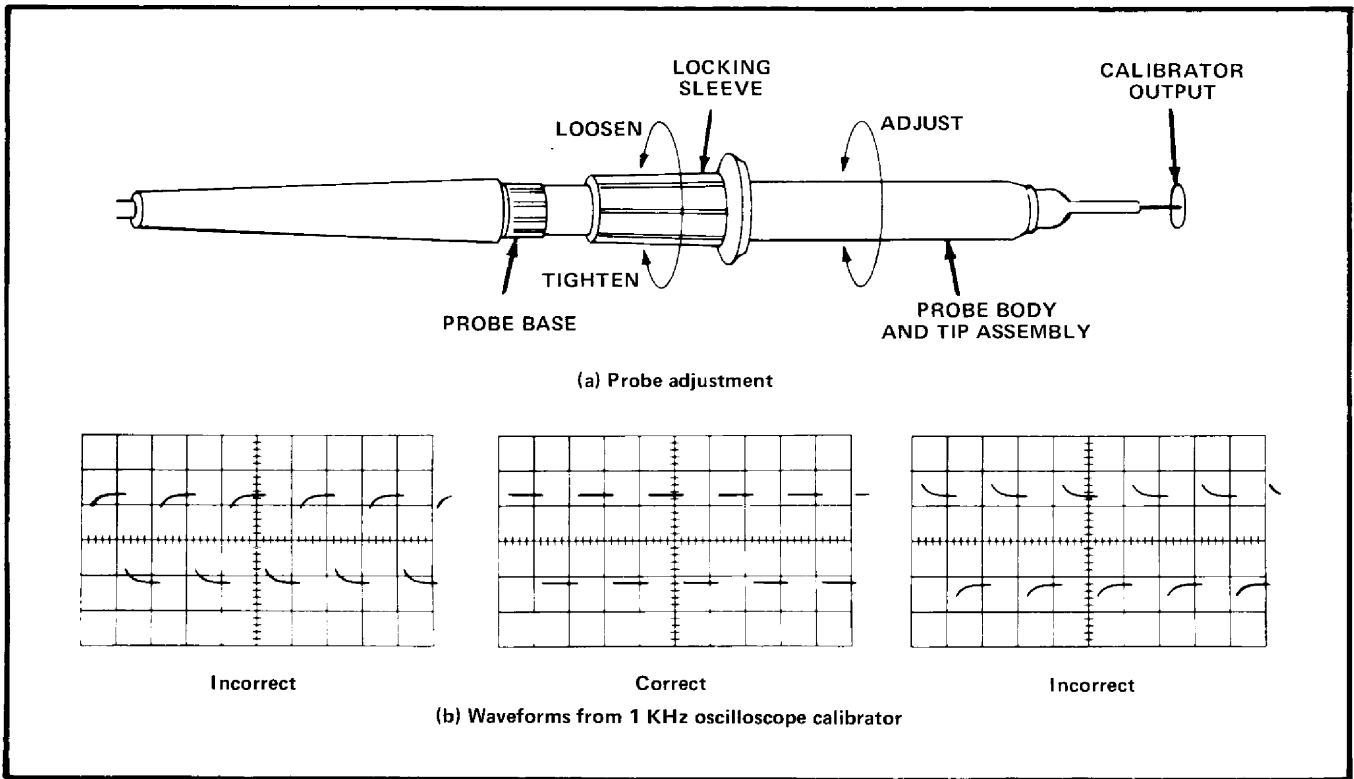

Fig. 4. Probe L.F. Compensation
c. Hold the probe body and tip assembly and loosen the locking sleeve several turns (Fig. 4).
d. Hold the base bushing and turn the probe body and tip assembly to obtain a flat-topped squarewave display, free of overshoot or rounding at the leading corner (see Fig. 4).